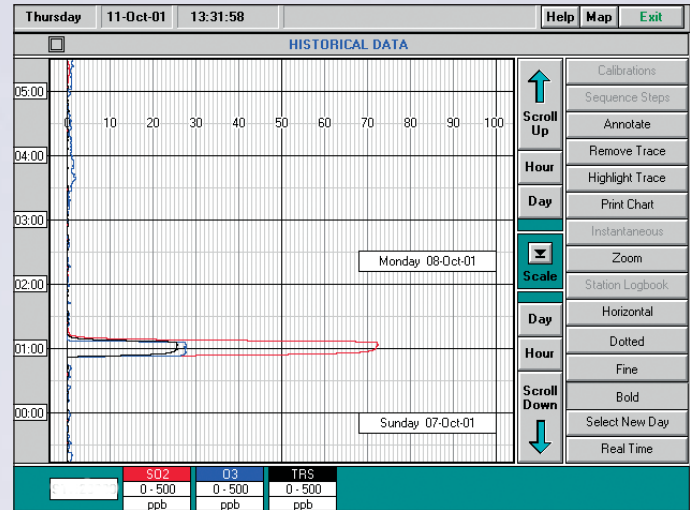

Figure 1 - Calibration Report (courtesy of EMC software)
- daily internal Zero/Span check (Figure 1)